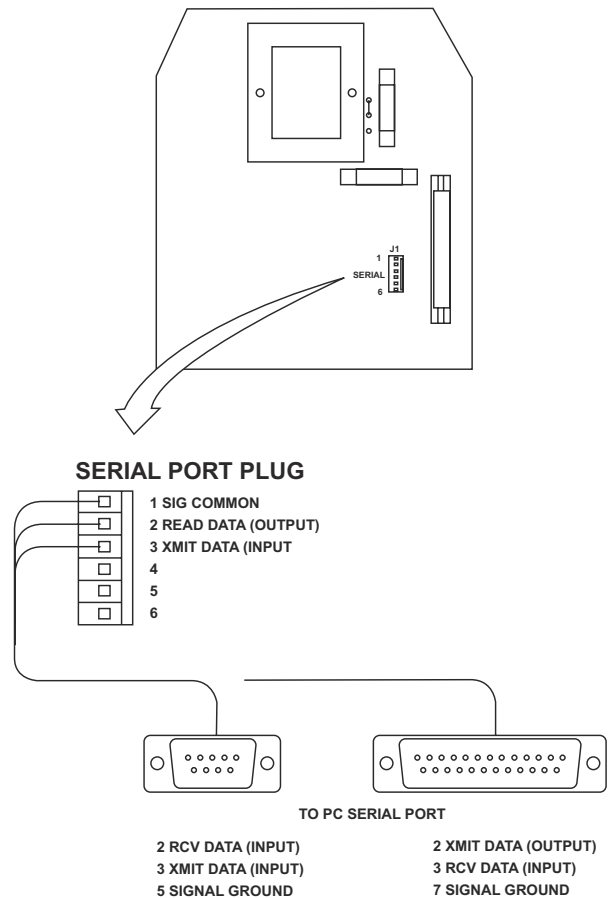

FIG. 9
- The Serial Communications are wired through a 6-point header on 0.1 inch centers (FIG. 9).